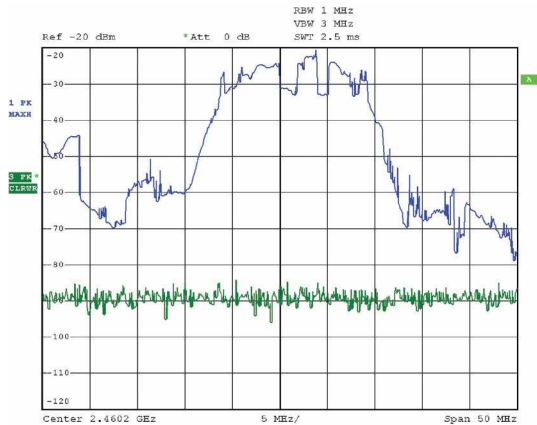
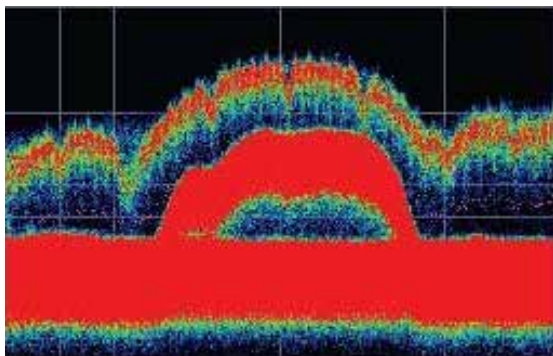

Figure 6: Display of a traditional swept spectrum analyzer
Figure 7: Real-time signal analyzer with a DPX display
Compare the Figure 6 on page 74 display of a traditional swept spectrum analyzer figure and that of a Figure 7 on page 74. The signal captured is a typical WLAN interchange between a nearby PC and a more-distant network access point (AP). The laptop signal is nearly 30 dB stronger than the AP's signal because it is closer to the measuring antenna.
The Figure 6 on page 74, uses line traces that can show only one level for each frequency point, representing the largest, the smallest or the average power. After many sweeps, the Max Hold trace shows a rough envelope of the stronger laptop signal. +Peak detection was selected for the other trace in an attempt to capture the weaker but more frequent AP signal, but the bursts are very brief, so the likelihood of seeing one in any particular sweep is small. It will also take a long time to statistically capture the entire spectrum of a bursted signal due to the architecture of the swept spectrum analysis.
The Figure 7 on page 74, reveals much more insight on the same signal. Since it is a bitmap image instead of a line trace, you can distinguish many different signals occurring within each update period and/or different version of the same signal varying over time. The heavy band running straight across the lower third of the graph is the noise background when neither the laptop nor the AP is transmitting. The red lump of energy in the middle is the ON shape of the AP signal. Finally, the more delicate spectrum above the others is the laptop transmissions. In the color scheme used for this demonstration (“Temperature”), the hot red color indicates a signal that is much more frequent than signals shown in cooler colors. The laptop signal, in yellow, green and blue, has higher amplitude but doesn't occur nearly as often as the AP transmissions because the laptop was downloading a file when this screen capture was taken.